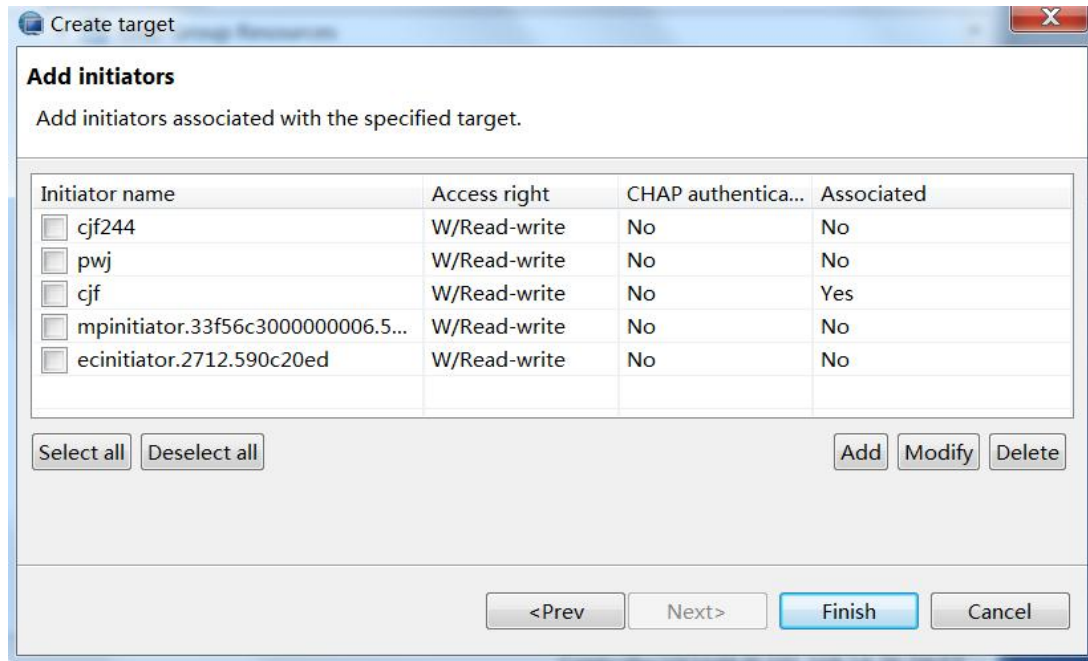

Figure 13-6 Setting an initiator
- (3) Click the **[Next]** button after configuration, and on the popup dialogue box, add or modify the initiator for the target, as shown in Figure 13-6: